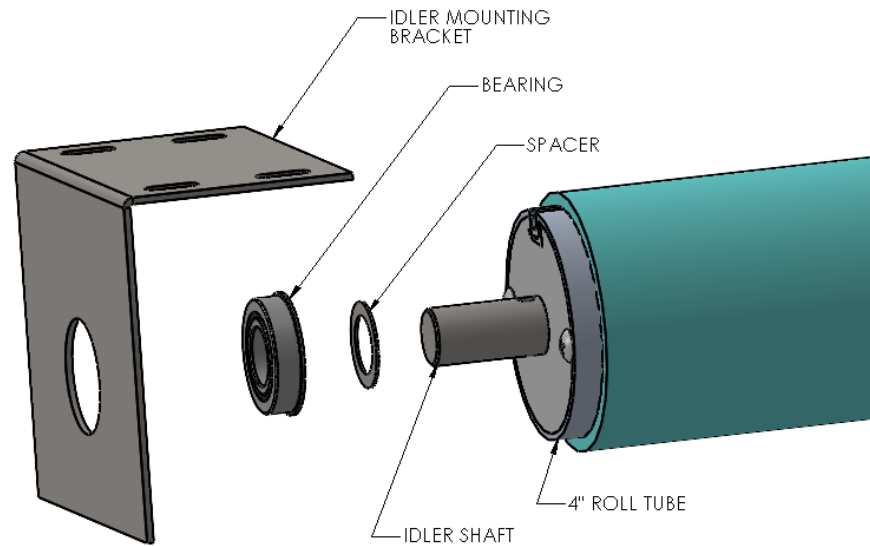

Figure 2 Idler End Assembly Order
3. From the inside/Roll side of the Idler Mounting Bracket, insert a Flanged Bearing into the hole of the Idler Mounting bracket. (Figure 2 Idler End Assembly Order)
4. Slip a Bearing Spacer onto the Idler Shaft. (Figure 2 Idler End Assembly Order)
9. Raise the Roll Assembly, with the Bearing Spacer and Motor Mounting Bracket installed, then insert the Idler shaft into the Flanged Bearing of the Idler Mounting Bracket. (Figure 2 Idler End Assembly Order)